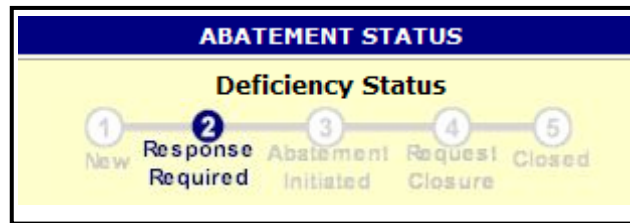

Fig. 3. ESAMS Abatement Status Area.
(2) The "Deficiency Status" is shown at the top of the "Abatement Status" area, figure 3. This helps inspectors,